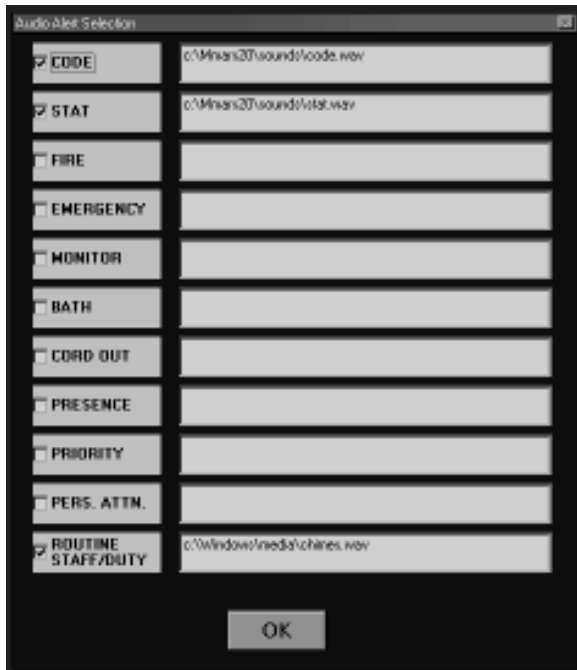

Figure 18: Audio Alert Selection
6. Refer to *Figure 18* for the AUDIO ALERT SELECTION menu that will appear.